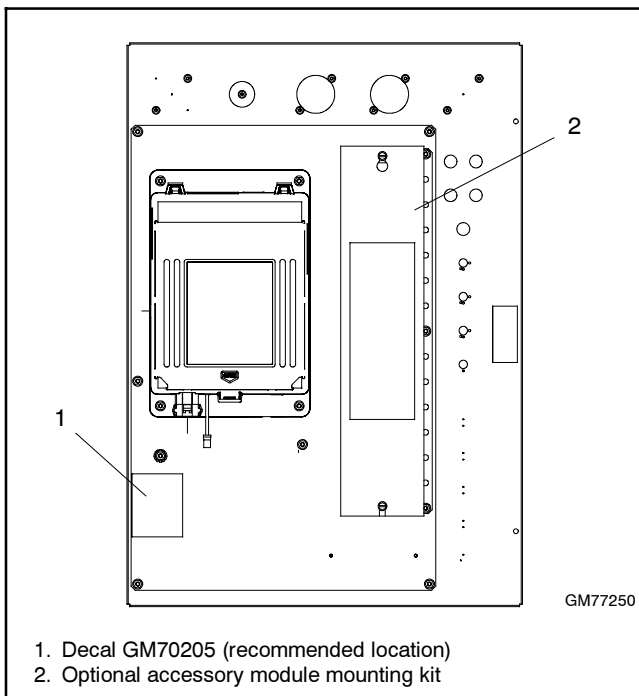

Figure 21 Decal GM70205 Location
23. Verify that the surface is clean and dry, and place decal GM70205 on the mounting plate as shown in Figure 21.
24. If optional accessory modules are used, attach the accessory mounting kit to the conversion kit mounting plate (GM77130). See Figure 21. Then refer to instruction sheet TT-1449, provided with the accessory mounting kit, to install and connect the modules.